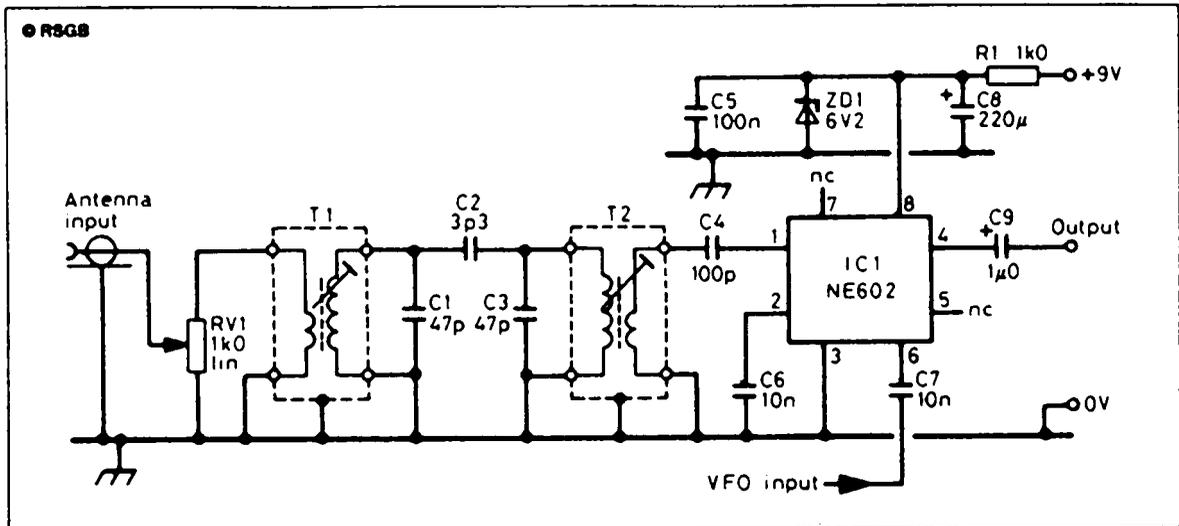

Figure 3 The mixer board has a bandpass filter and stabilised supply
So far, we have an audio-frequency (AF) amplifier and a VFO; the addition of a mixer board gives us a complete direct-conversion receiver for 80 m. The mixer circuit diagram is shown in Figure 3. Let's follow the signal path.